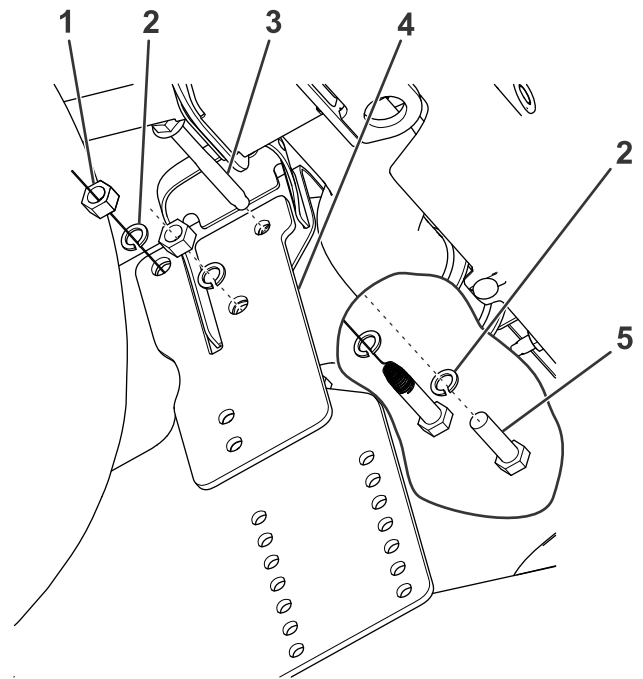

**Figure 4**
- On the inner side of the vehicle frame, remove and retain the existing fasteners shown in Figure 4.